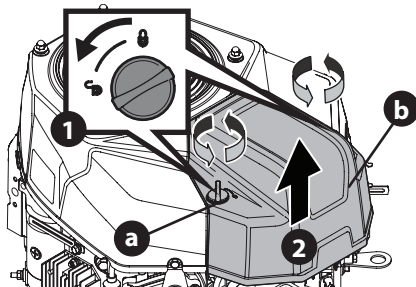

Figure 9
1. Unscrew a 1/4 turn and remove the thumb screws (a) (Figure 9).